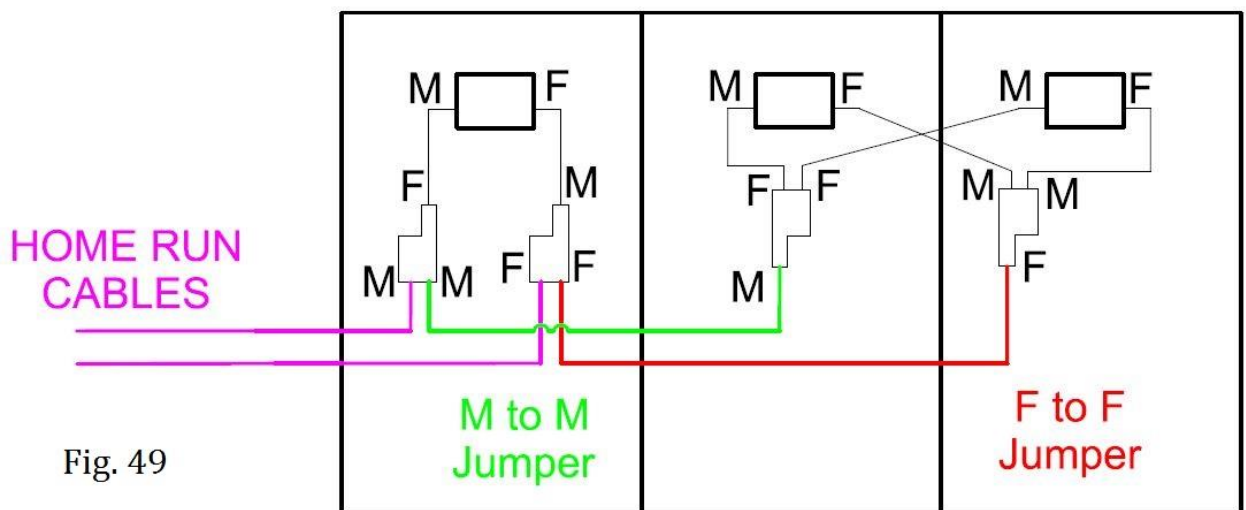

Fig. 49
- If modules used in the solar photovoltaic system are not the specified brand of the manufacturer, it must comply with the electrical requirement. The cross section area of cable and the capacity of connector must be selected to suit the maximum system short circuit current, otherwise the cable and the connector will be overheated under high current levels. Modules connected in parallel can use branch connectors as shown in Fig.49. These are available from HotSpot as a kit, and may be ordered in any length. Please contact HotSpot Energy to order. The maximum current of the solar photovoltaic system and the maximum current and voltage capacity of the joints and connective cables should be considered during installation.
- Connection method A: 3 panels, portrait mounted, with branch connectors wired in parallel. See Fig. 49.